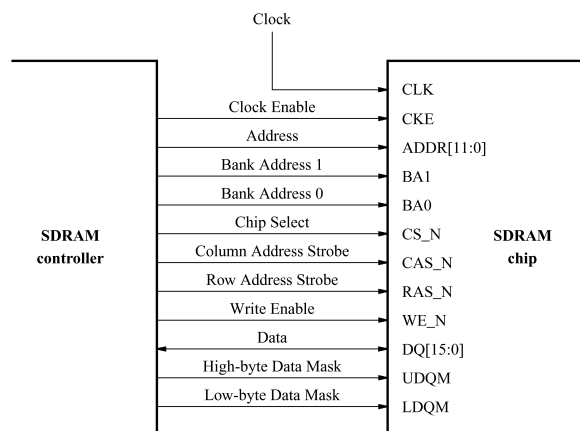
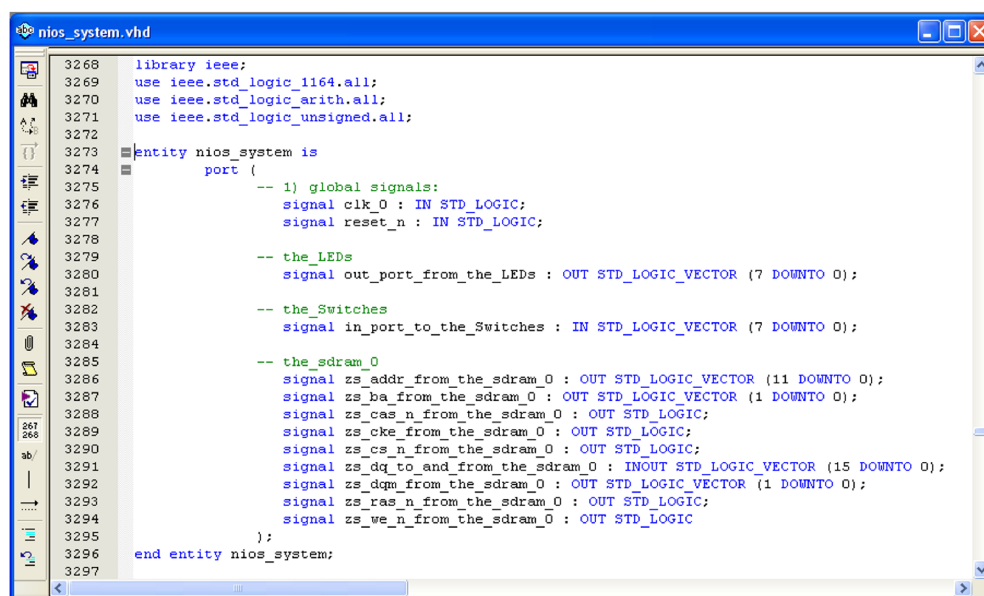

Figure 2. The SDRAM signals.
Figure 7. A part of the generated VHDL entity.
The SDRAM chip on the DE2 board has the capacity of 64 Mbits (8 Mbytes). It is organized as 1M x 16 bits x 4 banks. The signals needed to communicate with this chip are shown in Figure 2. All of the signals, except the clock, can be provided by the SDRAM Controller that can be generated by using the SOPC Builder. The clock signal is provided separately. It has to meet the clock-skew requirements as explained in section 7. Note that some signals are active low, which is denoted by the suffix N.
The augmented VHDL entity generated by the SOPC Builder is in the file *nios\_system.vhd* in the directory of the project. Figure 7 depicts the portion of the code that defines the port signals for the entity *nios\_system*. As in our initial system that we developed in the introductory tutorial, the 8-bit vector that is the input to the parallel port *Switches* is called *in\_port\_to\_the\_Switches*. The 8-bit output vector is called *out\_port\_from\_the\_LEDs*. The clock and reset signals are called *clk\_0* and *reset\_n*, respectively. A new entity, called *sdram*, is included. It involves the signals indicated in Figure 2. For example, the address lines are referred to as the OUT vector *zs\_addr\_from\_the\_sdram\_0[11:0]*. The data lines are referred to as the INOUT vector *zs\_dq\_to\_and\_from\_the\_sdram\_0[15:0]*. This is a vector of the INOUT type because the data lines are bidirectional.
A first attempt at creating the new entity is presented in Figure 8. The input and output ports of the entity use the pin names for the 50-MHz clock, *CLOCK\_50*, pushbutton switches, *KEY*, toggle switches, *SW*, and green LEDs, *LEDG*, as used in our original design. They also use the pin names *DRAM\_CLK*, *DRAM\_CKE*, *DRAM\_ADDR*, *DRAM\_BA\_1*, *DRAM\_BA\_0*, *DRAM\_CS\_N*, *DRAM\_CAS\_N*, *DRAM\_RAS\_N*, *DRAM\_WE\_N*, *DRAM\_DQ*, *DRAM\_UDQM*, and *DRAM\_LDQM*, which correspond to the SDRAM signals indicated in Figure 2. All of these names are those specified in the DE2 User Manual, which allows us to make the pin assignments by importing them from the file called *DE2\_pin\_assignments.qsf* in the directory *tutorials\design\_files*, which is included on the CD-ROM that accompanies the DE2 board and can also be found on Altera's DE2 web page.
Observe that the two *Bank Address* signals are treated by the SOPC Builder as a two-bit vector called *zs\_ba\_from\_the\_sdram\_0[1:0]*, as seen in Figure 7. However, in the *DE2\_pin\_assignments.qsf* file these signals are given as separate signals *DRAM\_BA\_1* and *DRAM\_BA\_0*. This is accommodated by our VHDL code. Similarly, the vector *zs\_dqm\_from\_the\_sdram\_0[1:0]* corresponds to the signals (*DRAM\_UDQM* and *DRAM\_LDQM*).
--          SDRAM ports correspond to the signals in Figure 2; their names are those